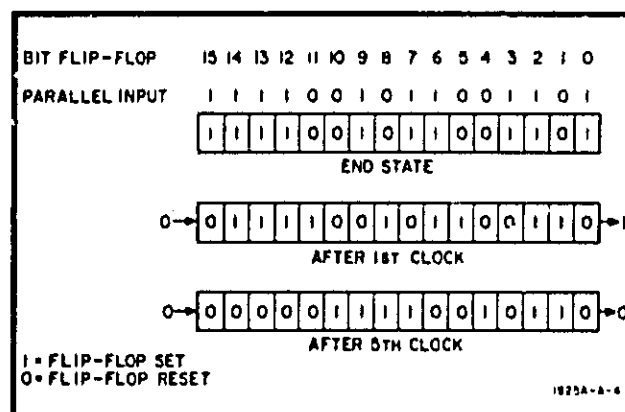

Figure 4-4. Shift Register Operation
b. Each flip-flop of the shift register has its Q and \bar{Q} outputs connected to the following flip-flop. The outputs of the flip-flops are cross-coupled (Q output to \bar{K} input and \bar{Q} output to \bar{J} input). On the clock pulse, each flip-flop assumes the set or reset condition as dictated by the signals on its \bar{J} - \bar{K} inputs. In this manner the state of the preceding flip-flop is transferred to the following flip-flop. To illustrate, assume the situation where the bit 15 flip-flop A2A17 is in the set condition and the bit 14 flip-flop A2A16 is in the reset condition. With the WORD state true, the clock signal is applied to the shift register flip-flops through NOR gates A2A6 and A2A18. With the bit 14 flip-flop A2A16 reset, the output \bar{Q} (pin 1) is logic 1 and the output Q (pin 13) is logic 0. These outputs are applied to the \bar{J} and \bar{K} inputs of flip-flop A2A15. Logic 1 applied to the \bar{J} input and logic 0 applied to the \bar{K} input results in flip-flop A2A15 resetting on the clock pulse. In the case of A2A16, signals from A3A17 are applied to its inputs. Logic 0 is applied to \bar{J} input and logic 1 is applied to \bar{K} input. On the same clock pulse that resets A2A15, A2A16 will set. Notice that flip-flop A2A15 assumed the state of flip-flop A2A16 and flip-flop A2A16 assumed the state of flip-flop A2A17. The shifting of bit information from flip-flop to flip-flop occurs simultaneously on each clock pulse (Figure 4-4).